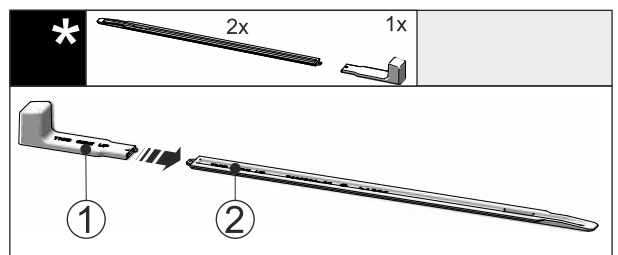

Fig. 54
- ▶ Insert the mounting handle Fig. 54 (1) into the leveling rail Fig. 54 (2).